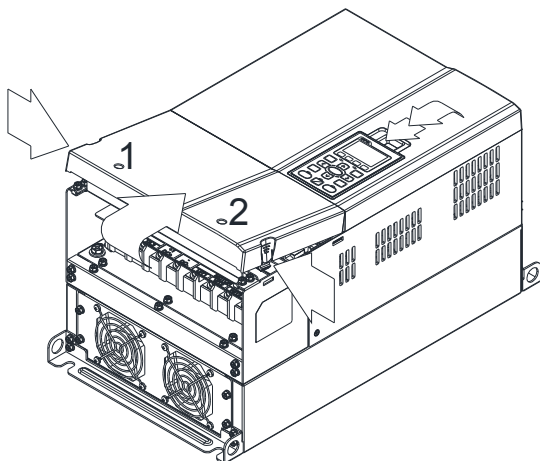

Figure 1
1. (Figure 1) Loosen screw 1 and 2, press the on the right and the left to remove the cover, follow the direction the arrows indicate. Press on top of digital keypad KPC-CE01 to properly remove the keypad. Screw torque: 10~12kg-cm (8.6~10.4in-lbf)